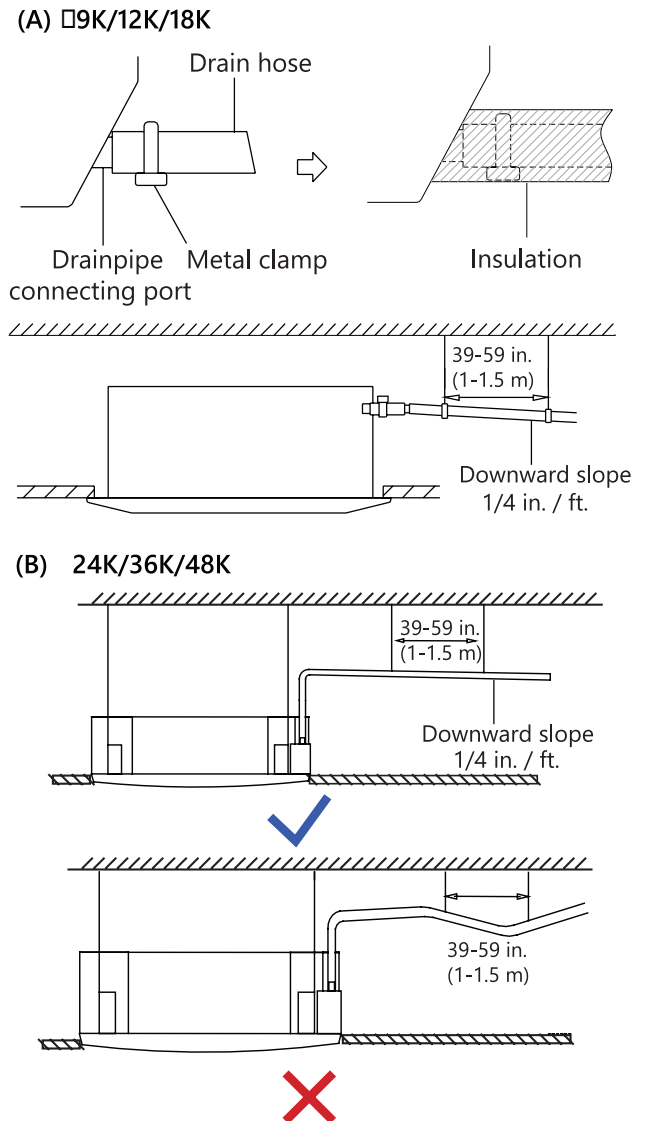

Fig. 3-1: Drainpipe Connection
1. Install the drainpipe as illustrated in Fig. 3-1.